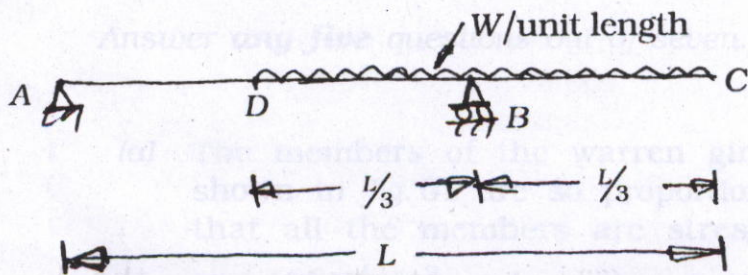

fig. 06
7. Determine the rotation and deflection at the free end in the overhanging beam as shown in fig. 06. 20